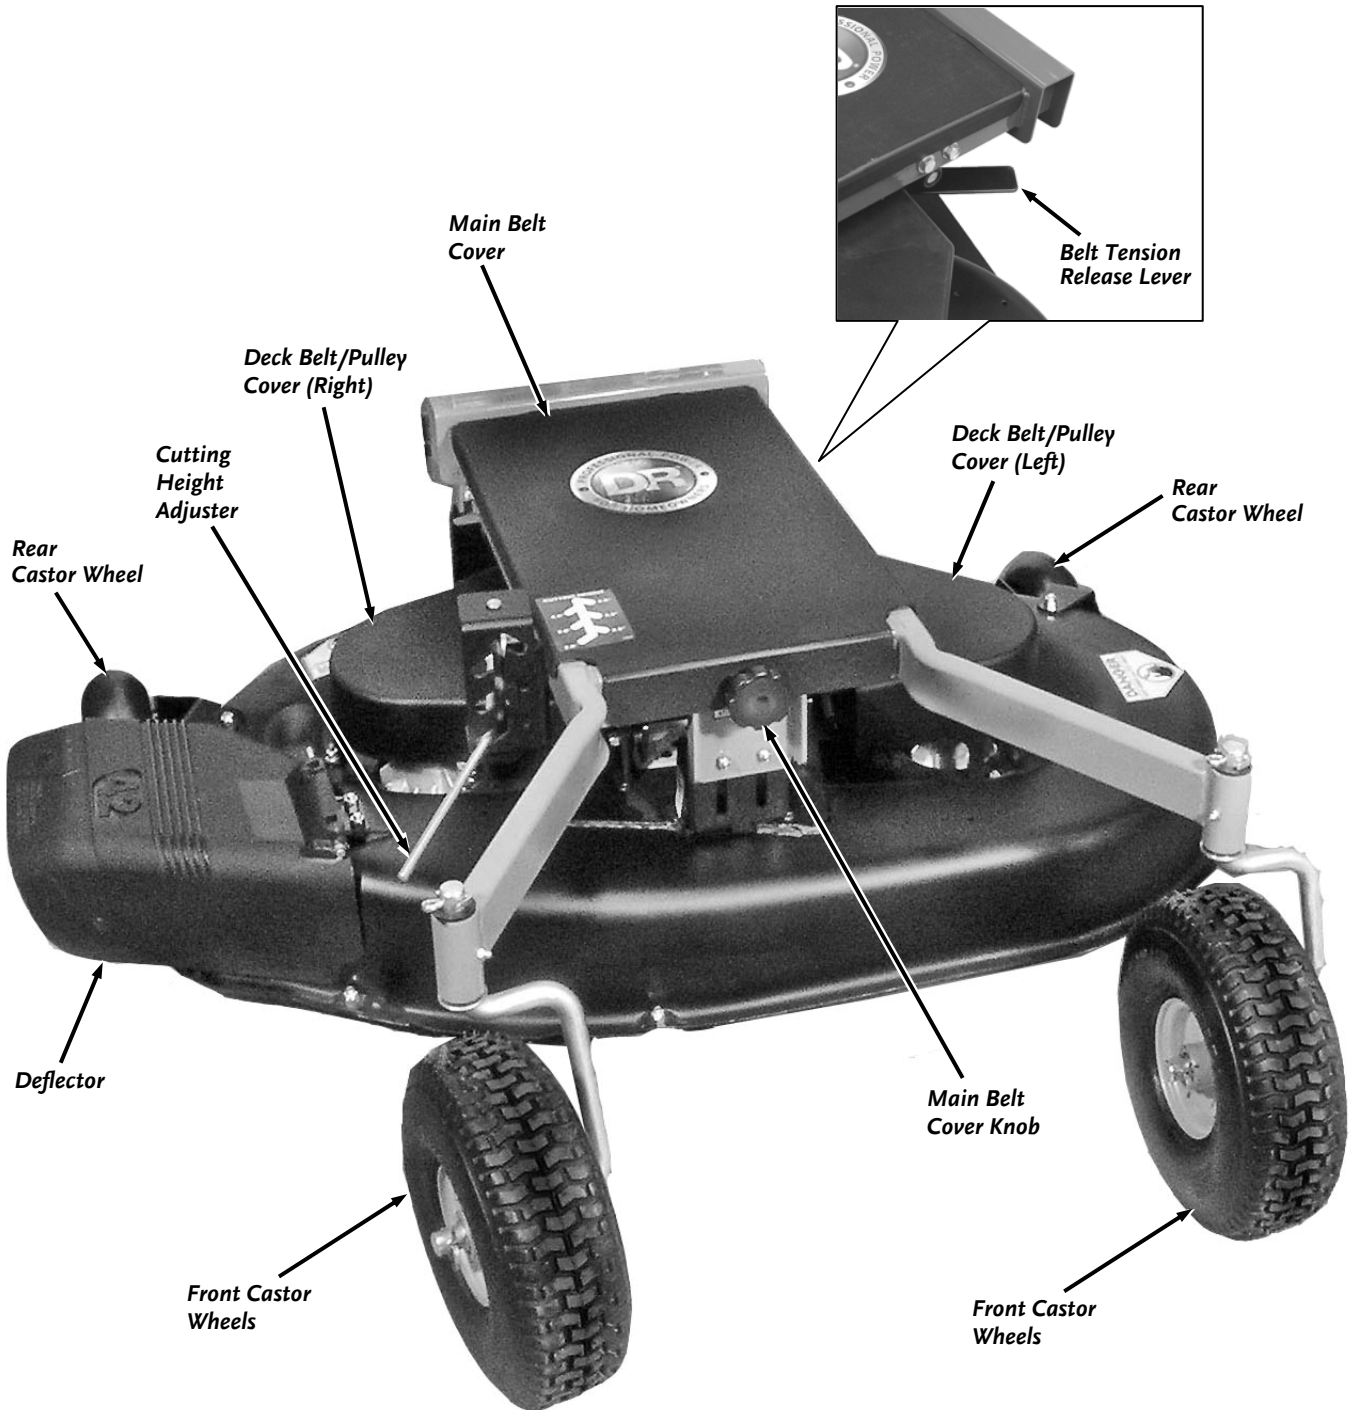

Figure 1
It may be helpful to familiarize yourself with the controls and features of your DR LAWN MOWER DECK as shown in Figure 1 before beginning these procedures. If you have any questions at all, please feel free to contact us at www.DRpower.com.
5. Hold down the Operator Presence Lever (**Figure 1**) of your DR Field and Brush Mower.